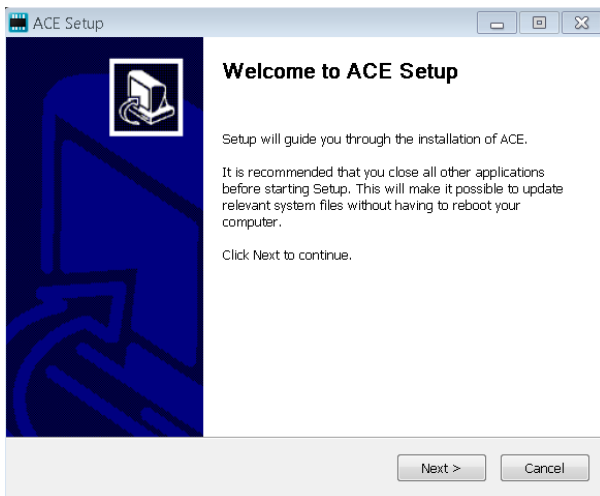

Figure 4. ACE Software Installation Confirmation
4. In the **ACE Setup** window, click **Next >** to continue the installation (see Figure 4).